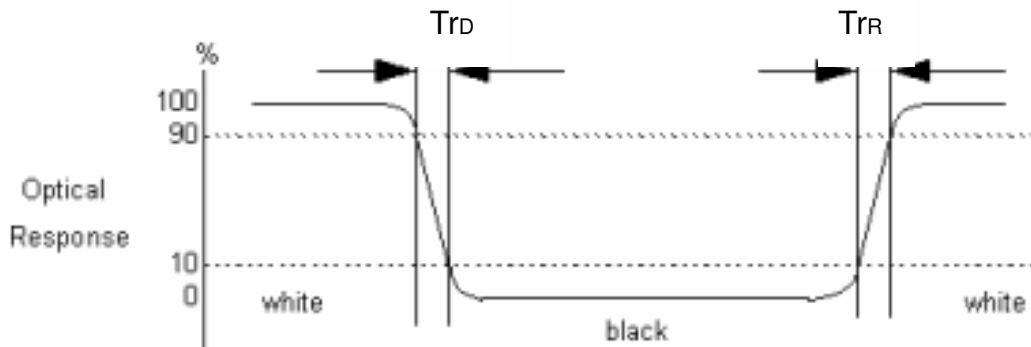

Fig.4-3 Response time
4. Response time is the time required for the display to transition from white(L255) to black(L0) (Decay Time, $T_f = T_{rD}$), and from black(L0) to white(L255) (Rise Time, $T_r = T_{rR}$). For additional information see Fig. 4-3.